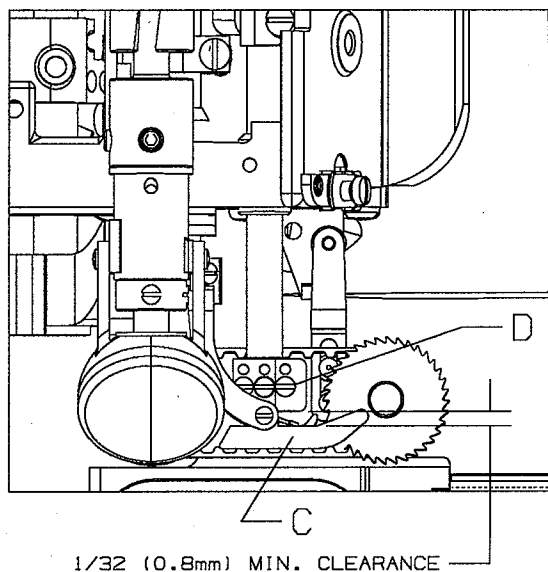

Fig. 1
Turn air supply off to presser foot air cylinder assembly (A). Loosen screw (E) on presser foot stop collar (F). Turn handwheel (G) until needle bar (D, Fig. 1) is at bottom of stroke. Lift presser foot (C, Fig. 1) up until there is 1/32" (0.8mm) clearance between needle bar (D, Fig. 1) and rubber washer (H) up until they contact underside of head. Retighten screw (E).